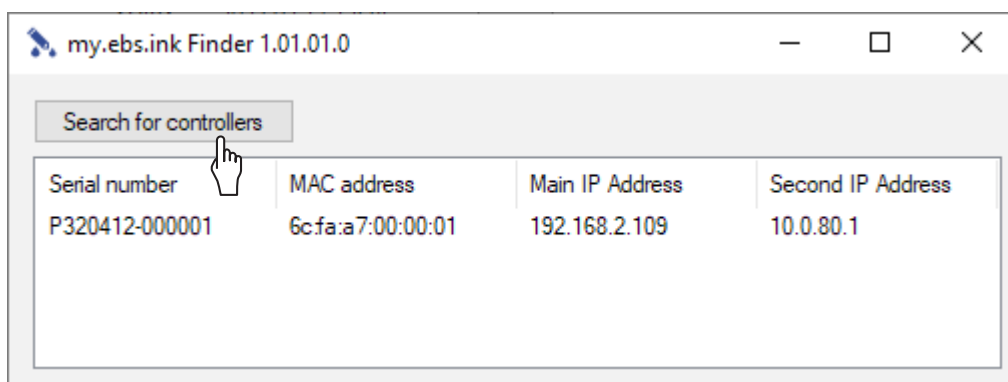

Fig. 2.
2. Press **Search for controllers** (see Fig. 2).